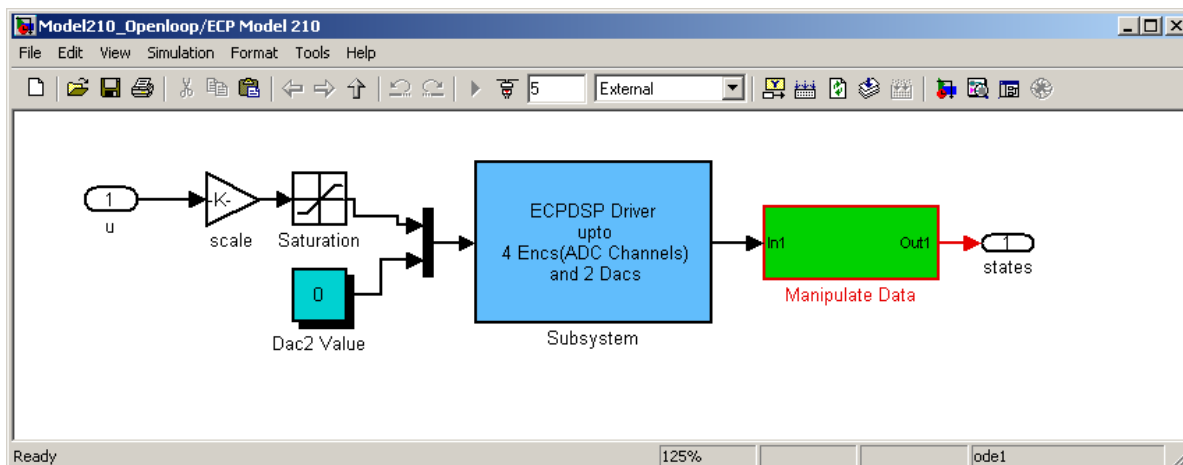

Figure 7: Model210_Openloop/ECP model 210
4. You should also verify that the **Base I/O Address** for this system is set correctly for the Dell computers. You can do this by double clicking on the yellow block and the window in Figure 7 will open up. Double click on the blue ECPDSP Driver block to confirm that the Base I/O Address is correct. Click Apply->OK and then close the windows that were opened and save the **Model210_Openloop.mdl** file.